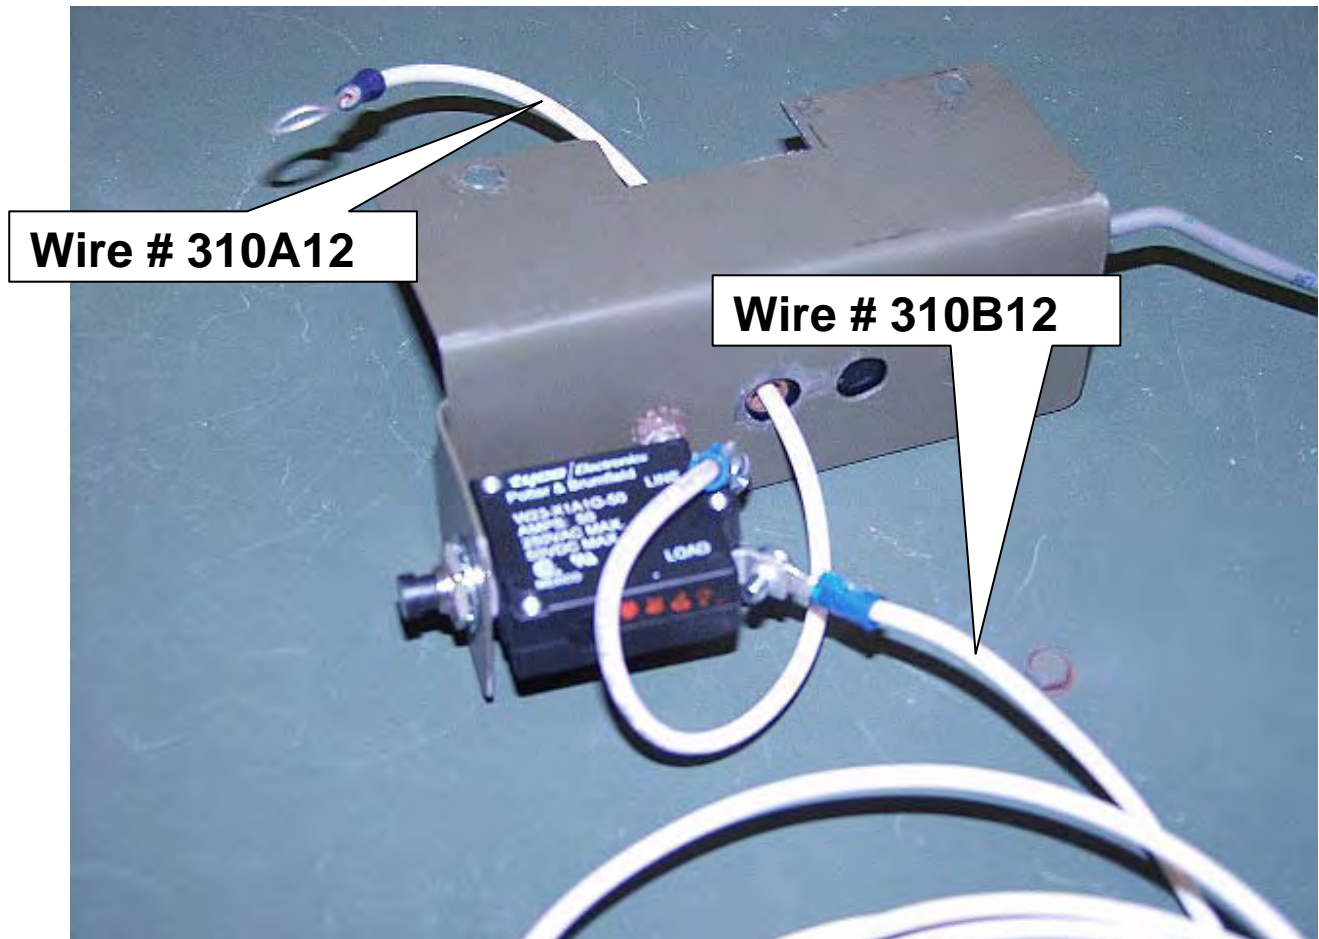

Figure 4. CB1/BCT Bracket Assembly
7. Install the 0.164 inch stud size lug terminal of wire # 310B12, on the load terminal of the circuit breaker (CB1) so that the lug terminal is parallel to CB1 on the label side as shown in figure 4.
9. Install the 0.164 inch stud size lug terminal of wire #310A12, on the line terminal of CB1 so that the lug terminal is perpendicular to CB1 on the label side, as shown in figure 4.
10. Install CB1 into side hole of the battery charging current transformer bracket as shown in figure 4.
11. Fish the other end of the wire # 310A12 through the bracket into the battery charging current transformer as shown in figure 4. Install 10-12 gauge, 3/8 inch stud size lug terminal to the end of the wire.